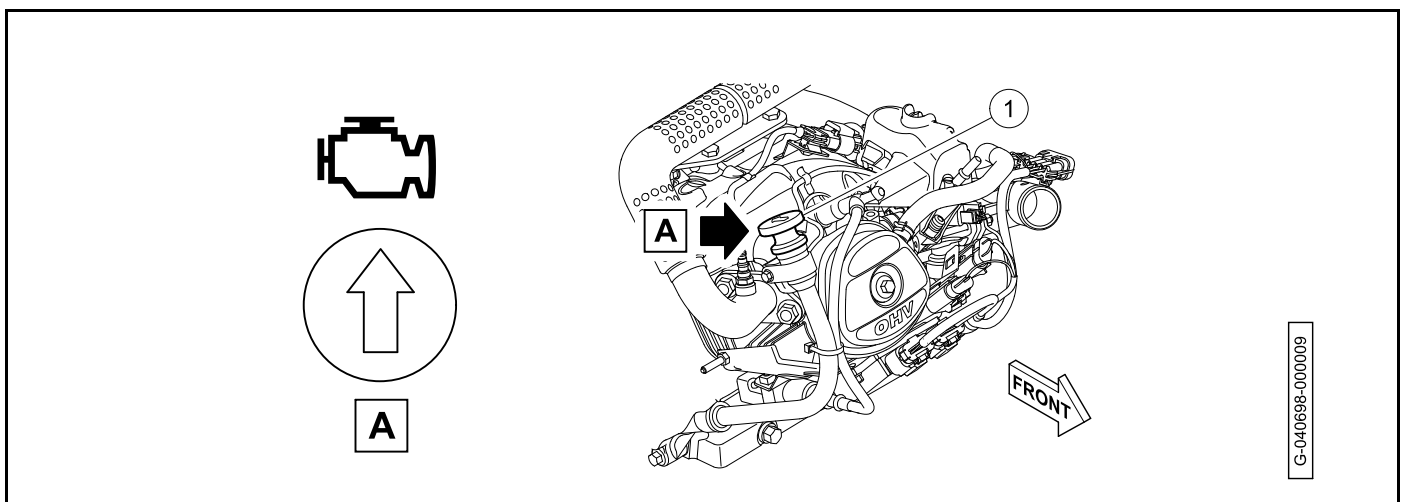

Figure 10-5 Dipstick
1. Remove the dipstick (1) (Figure 10-5, Page 10-11).